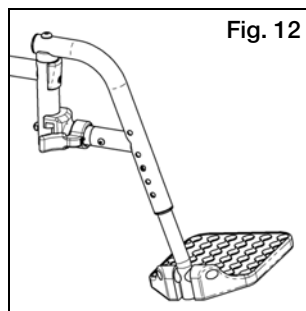

Fig. 12
- b. Rotate the footrest so that it aligns with the frame until it locks into place in the latch block (Fig. 12).